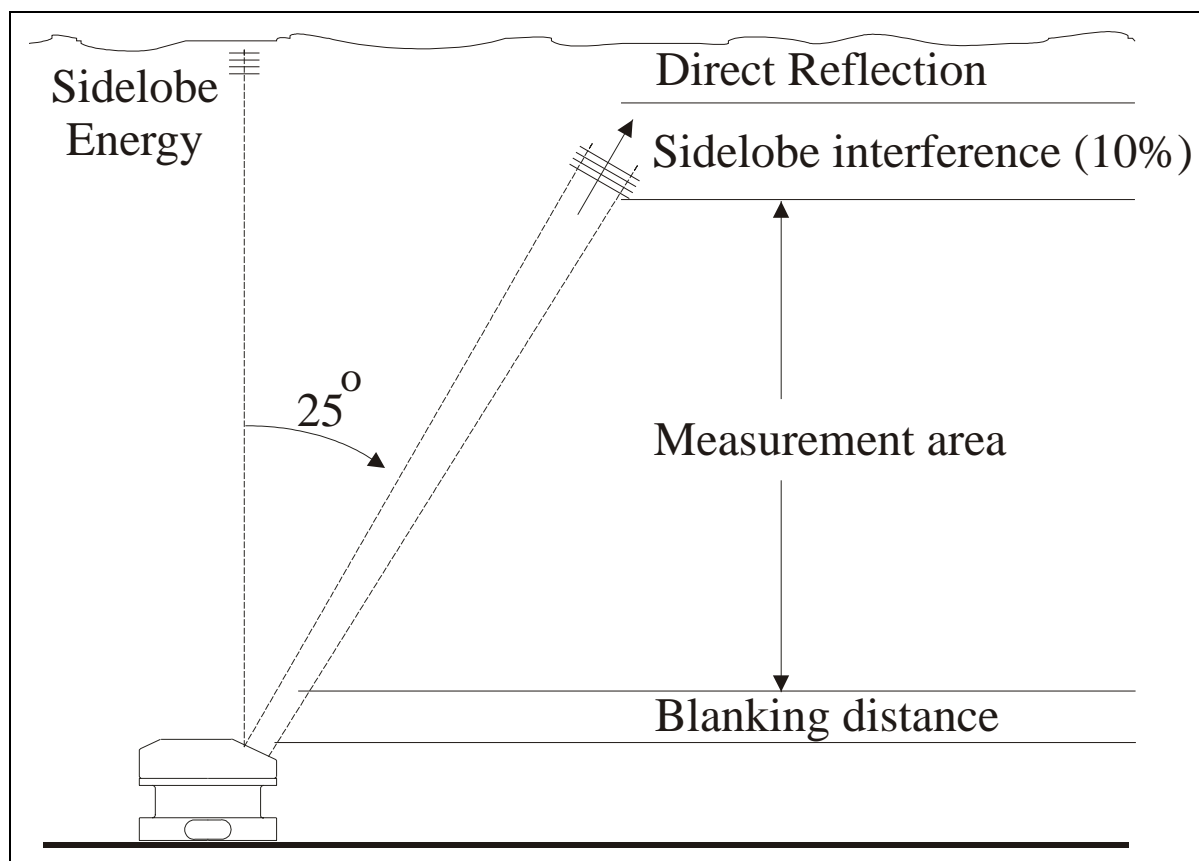

Figure 6 – ADP Near-Boundary Operation
Figure 6 shows an upward looking ADP near a boundary (the surface). For near-boundary operation, the profile is divided into several areas.
- As shown in Figure 6, some energy takes a direct (shorter) path to the boundary and reflects off the boundary while the main portion of the beam is still in clear water.